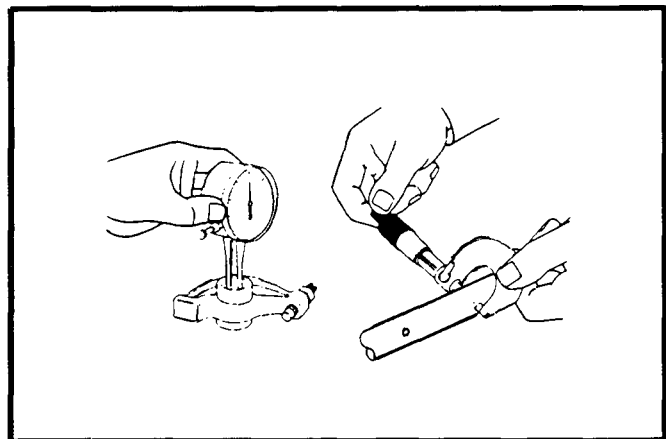

Figure 40.
9. Check the rocker arm-to-shaft clearance. See Figure 40.